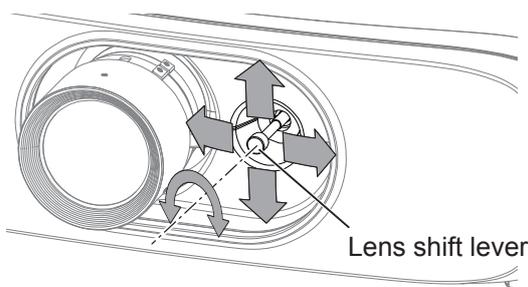

Fig. 1
- Adjust the lens shift. (Fig. 1)**